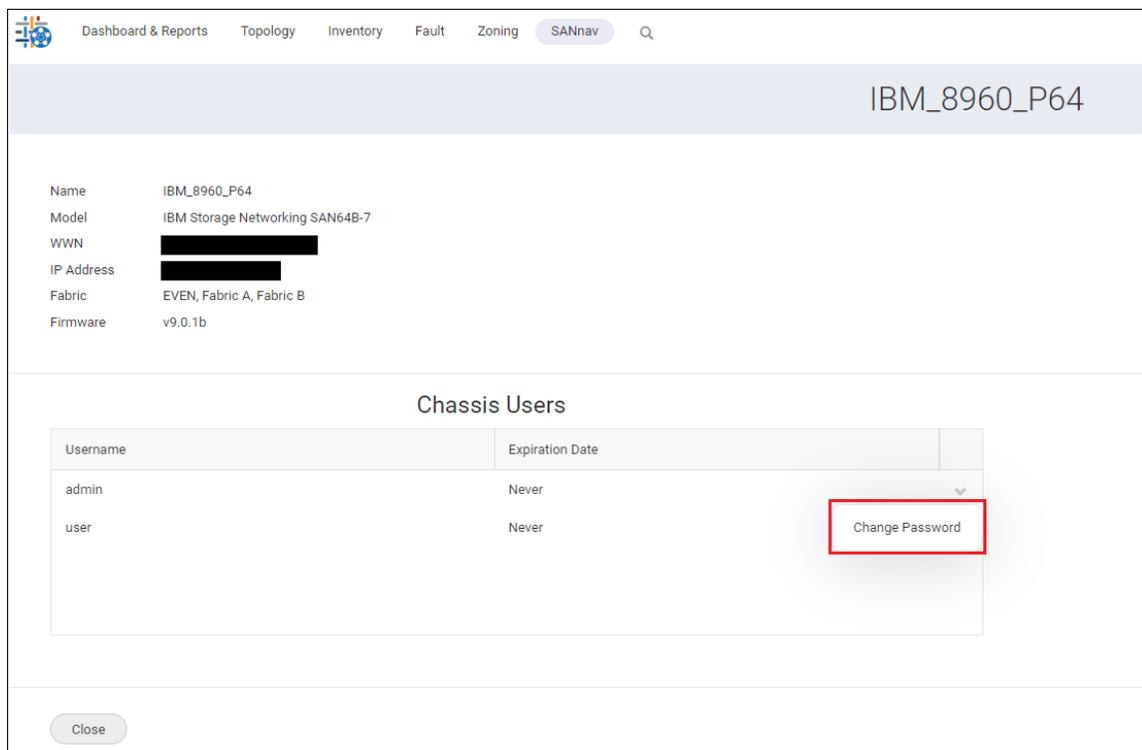

Figure 5-3 Change Password
2. Click **View** from the action menu for the chassis. The chassis details window opens with a list of users. You can edit the chassis password for any user by selecting **Change Password** from the action menu, as shown in Figure 5-3 on page 107.